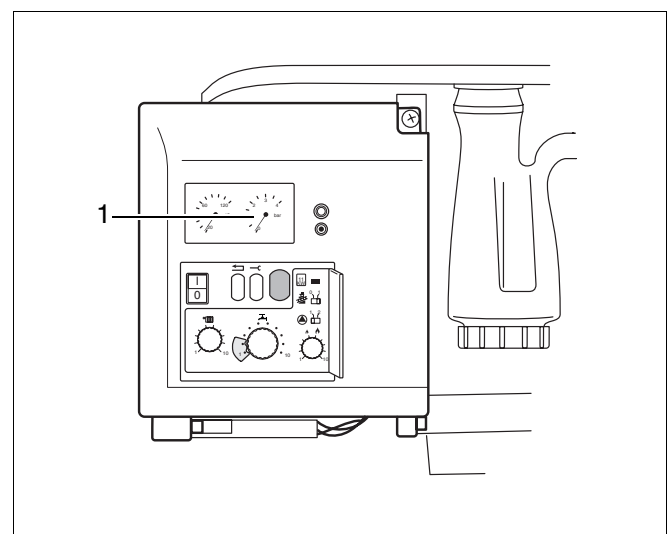

Fig. 5 Pressure display
- Fill the system to a pressure of 1.0 to 1.2 bar (fig. 5, item 1). Max. water pressure is 1.5 bar.